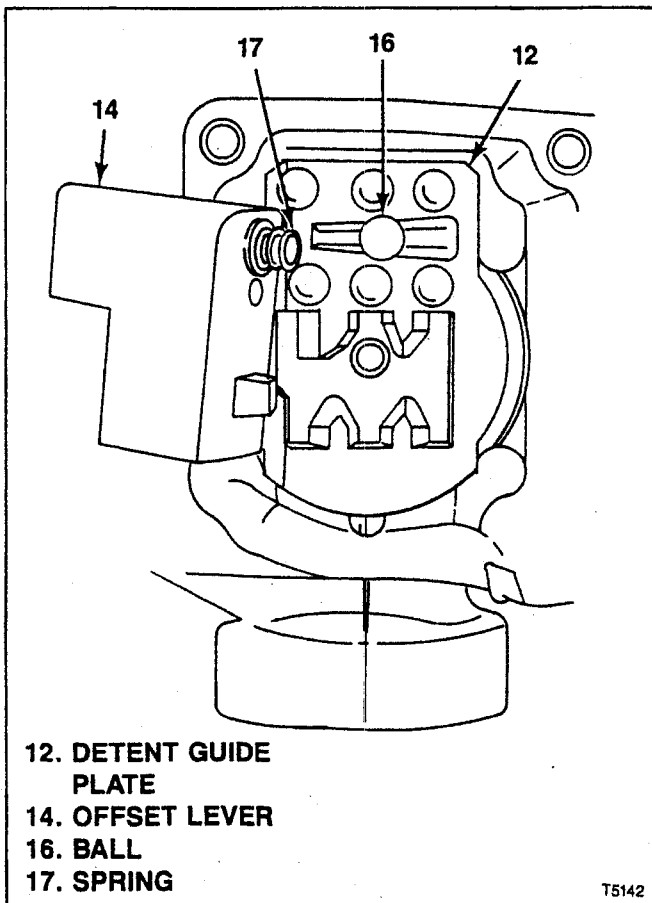

Figure 7-20. T5 NWC Ball in 3rd-4th Position
e. Lubricate detent guide plate (12) in extension (11A) or adapter (11B) with lithium grease. Position extension or adapter so that it easily can be picked up and installed on transmission.
f. Position ball (16) in 3-4 position in detent guide plate (12) (see figure 7-20).
g. Insert spring (17) in offset lever (14). Use petroleum to hold in place.
h. Position offset lever (14) (with spring) in extension (11A) or adapter (11B), engaging open end of spring (17) on ball (16) and push down on offset lever to compress spring slightly. Holding offset lever with one hand, pick up extension or adapter with the other and move parts into position at rear of transmission. Guide offset lever over end of shifter shaft (23) while moving extension or adapter up against rear of transmission case (106).
i. Install bolts (10) and torque to 23 lb-ft (30 Nm).
j. Align pin holes in offset lever (14) and shifter shaft (3) and drive in roll pin (9).